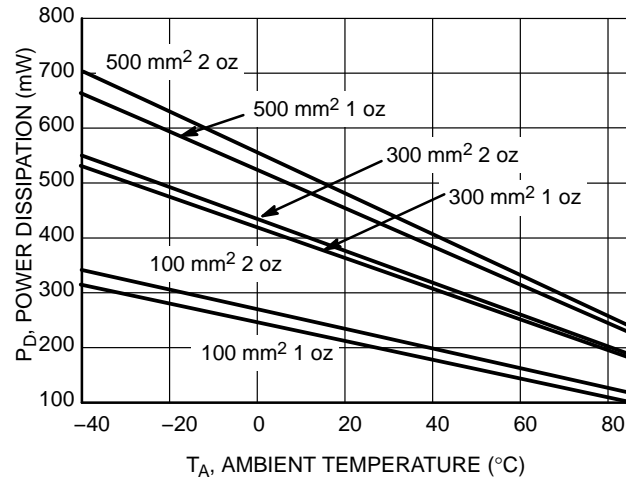
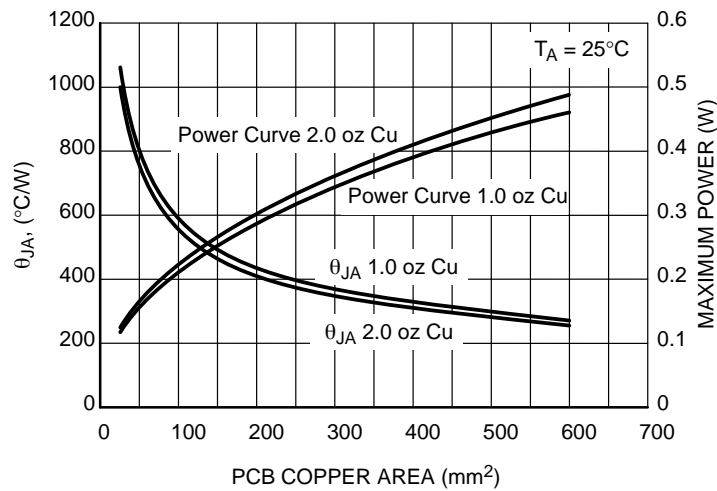

Figure 1. Power Dissipation vs. Ambient Temperature (SOD-123) @ $T_J = 150^\circ\text{C}$ for Variable Copper Heat Spreader
Figure 2. SOD-123 NSI14030T1G θ_{JA} and P_D vs. Cu Area
Figure 1 shows power dissipation over changes in ambient temperature for the SOD-123 package. Figure 2 shows θ_{JA} ($^{\circ}\text{C}/\text{W}$) and P_D (W) for various Cu areas and thicknesses. These tables and graphs illustrate the effect of Cu area, thickness and ambient temperature (T_A) over the range of -40°C to 85°C , which encompasses the area of interest for LED operation. LED data sheets show an extreme reduction in luminosity above 85°C T_A .
Figures 2 and 4 can be used to quickly determine which package and heat sink is a good candidate for the application.
For an ambient temperature of 85°C, from the P_D curves of Figures 1 and 3 a SOD-123 with 500 mm² 1 oz Cu would suffice. A SOT-223 with 100 mm² 1 oz Cu would also work.